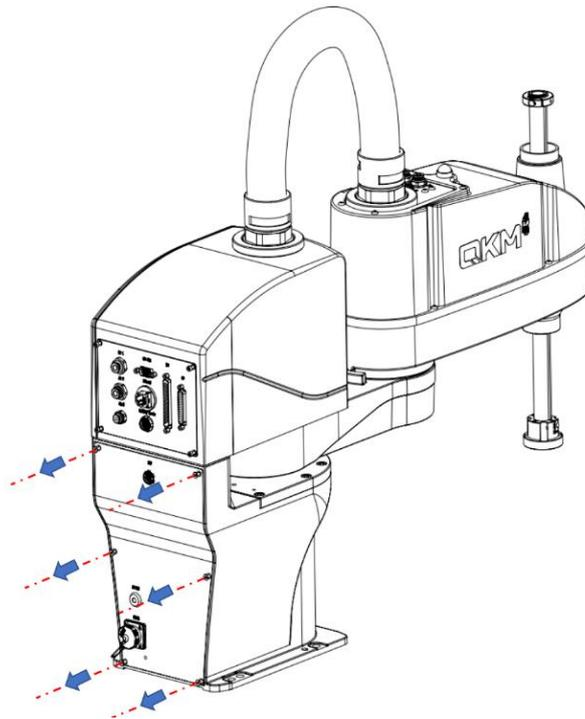

Figure 4-12 Removal of base interface panel
Step 1 Use 2.5 mm Allen wrench to remove the fastening screws from the base interface panel of the robot, as shown in Figure 4-12.